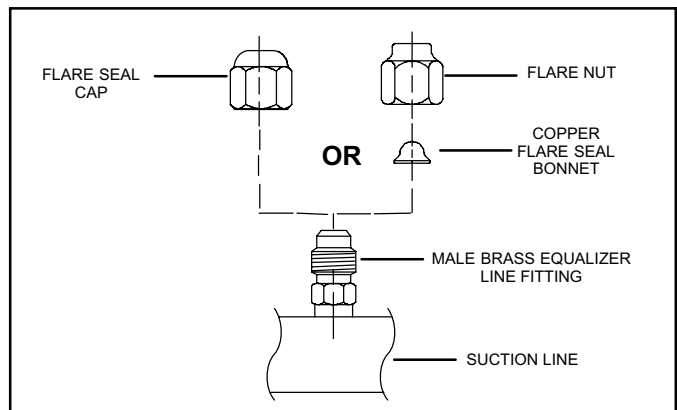

**Figure 24. TXV Sensing Bulb Installation**
6. Attach the suction line sensing bulb in the proper orientation as illustrated in figure 24 using the copper mounting strap and fastening hardware provided.